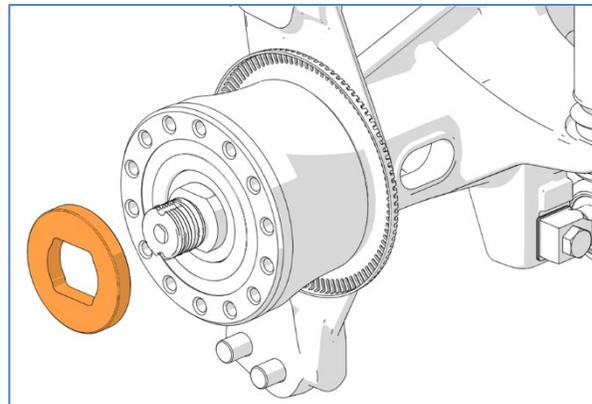

Figure 19
19. Remove the thrust washer (Figure 19).